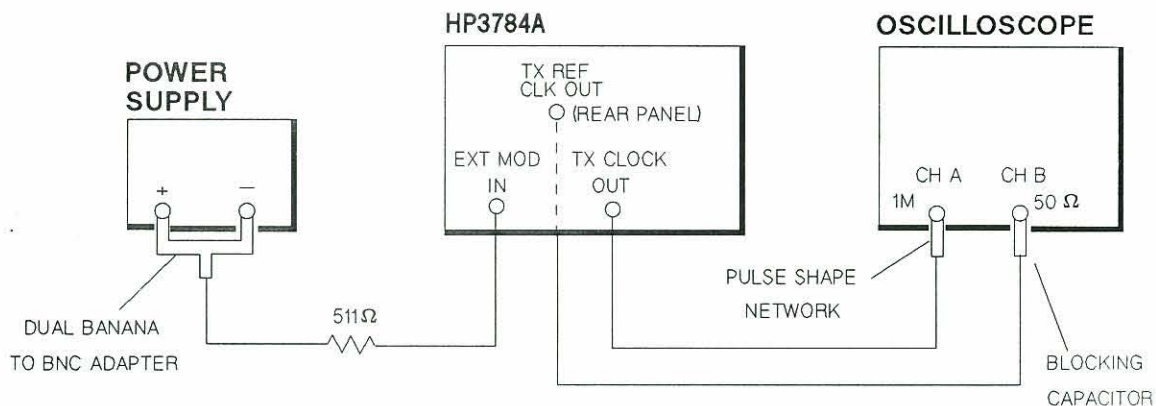

Figure 8-16 External Modulation Test Set-up 1 (Clock Output)
2. Connect the test equipment as shown in Figure 8-16.